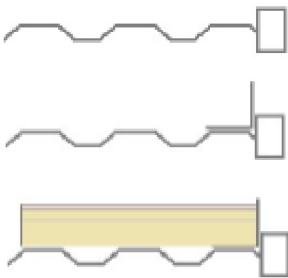

Fig. 4
- Use a standard 75mm x 50mm (3" x 2") or similar 'L' section aluminium, painted to match the window frame if necessary, and fix it adjacent to the sides and top as a lintel. The cladding pieces can then be butted against this section to provide an edge cover (refer to Fig 4).